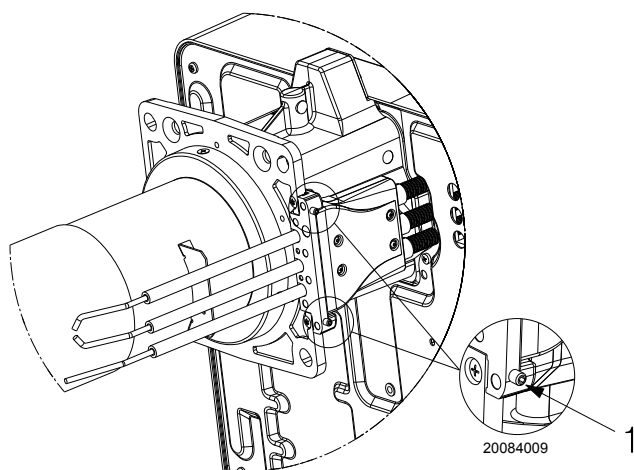
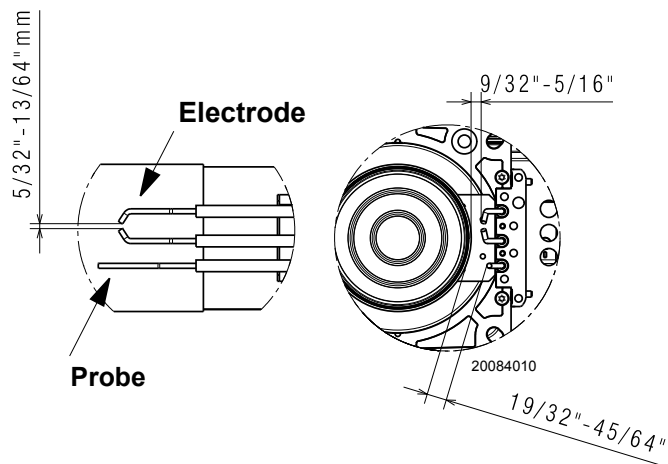

Fig. 14
Fig. 15
Before installing the burner on the boiler, make sure the probe and electrode are positioned correctly as in Fig. 15. Use the screws 1) Fig. 14 to obtain the correct distances.
- Before installing the burner on the boiler, check through the blast tube opening to make sure that the flame sensor probe and the ignition electrodes are correctly set in position, as shown in Fig. 15.